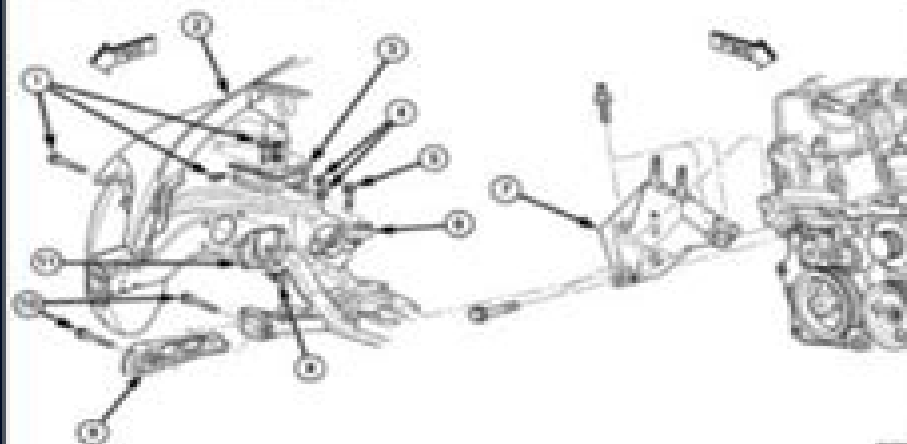
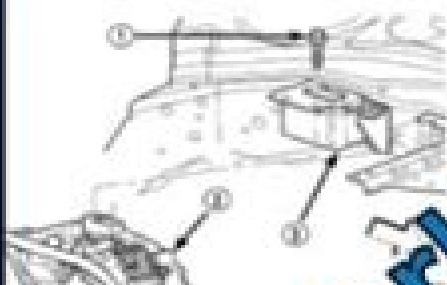

Fig. 11 Engine Mounting - Right Side
Fig. 12 Left Mount
1. Bolt at the right and left engine mounts (Fig. 11) and (Fig. 12). Tighten to 25 Nm (25 ft. lb.).
2. Install the upper engine torque strut (Fig. 11).
- (4) Remove upper engine assembly. Slowly raise vehicle to level ground. Remove engine fully and install.
- (5) Place vehicle on level ground.
- (6) Install A/C compressor and condenser. Connect A/C lines to engine.
- (7) Connect power flow to ground.
- (8) Connect power flow to ground.
- (9) Connect power flow to ground.
- (10) Connect power flow to ground.
- (11) Connect power flow to ground.
- (12) Connect power flow to ground.
- (13) Connect power flow to ground.